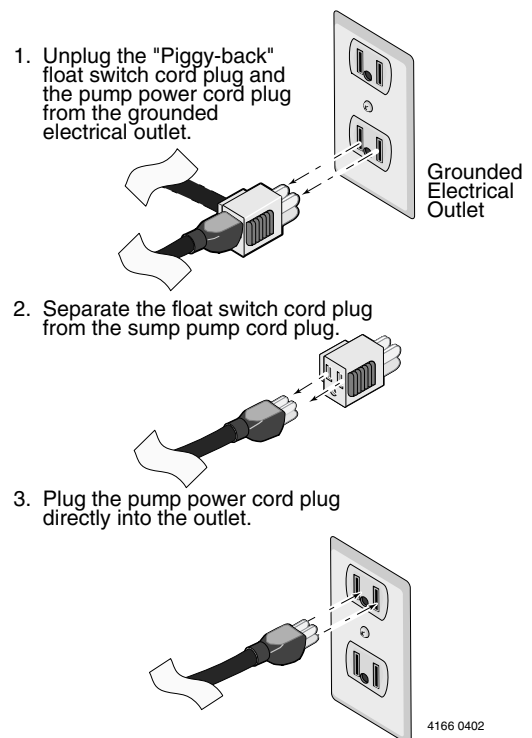

Figure 2 - To bypass the float switch
- 2B. If the sump pump has a piggy-back type power cord, remove the float switch power cord plug from the outlet and plug the pump power cord plug directly into the outlet. See Figure 2.